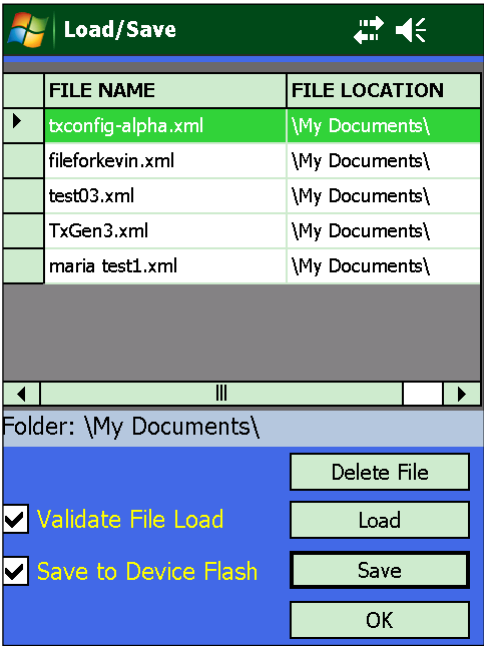

Figure 21: Load/Save Presets Screen
- 1. Tap on Load in the Load/Save screen (Figure 21).